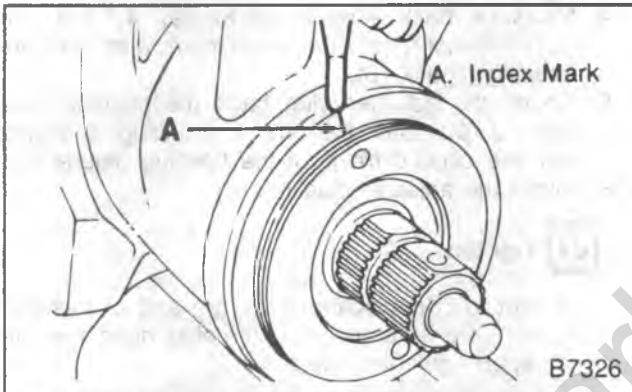

Figure 17—Marking Housing Even with Adjuster Plug
3. Place an index mark on the housing even with one of the holes in the adjuster plug (figure 17).